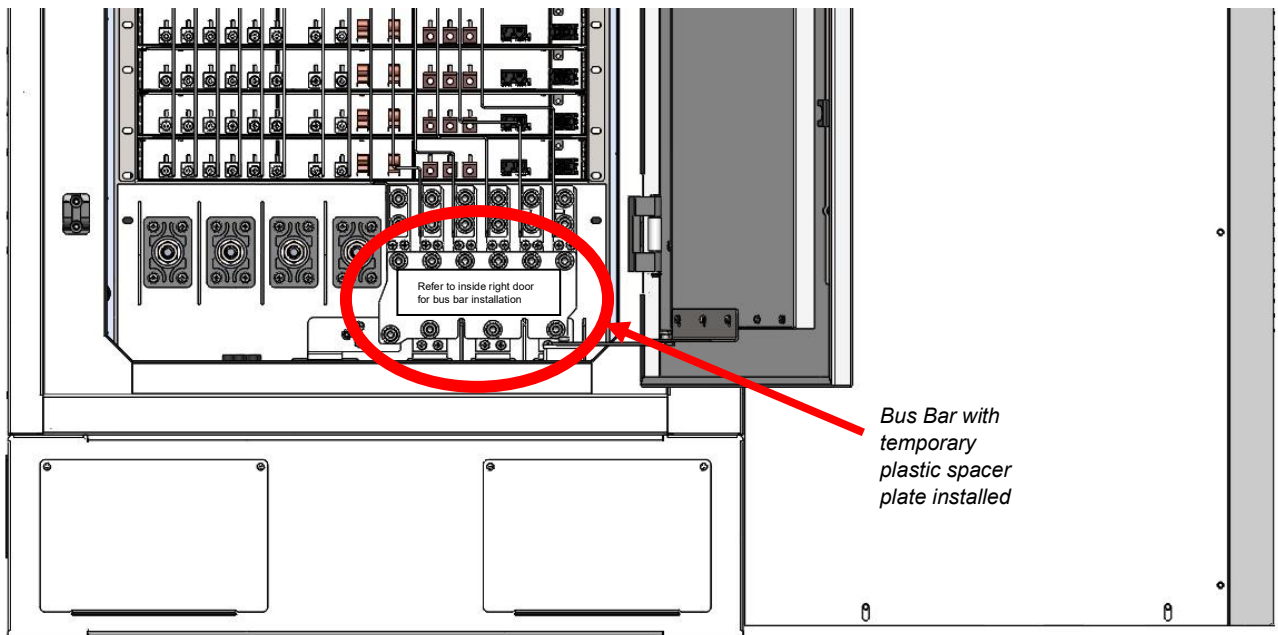

Figure 40 - Bus Bar with temporary plastic spacer plate installed
8. Locate Bus Bar near bottom right-side. A temporary plastic spacer plate is installed, as shown in Figure 40, your charger's bus bar needs to be configured: **Continue to the next step** to begin configuring the bus bar.